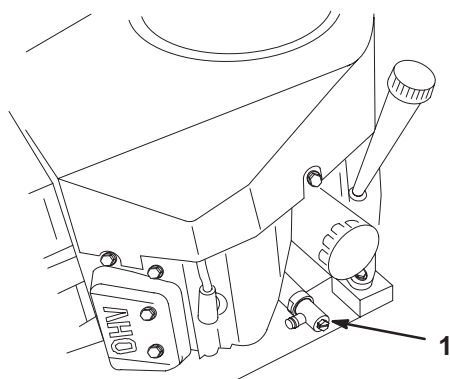

Figure 17
6. Place a pan below the oil drain hose. Use either a flat screw driver, 3/8 inch (10 mm) wrench to open valve (Fig. 17).
7. Rotate valve end counterclockwise to open valve (Fig. 17).
8. When oil has drained completely, rotate valve end clockwise to close the valve (Fig. 17).
9. Remove the drain hose (Fig. 17).